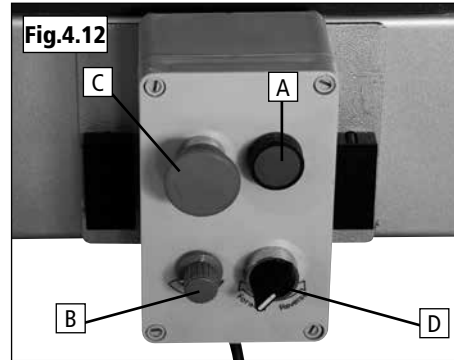

Fig.4.13
2. With access cover open, loosen the belt tightening handle. Rotate the tightening handle to release tension on the belt. Check speed and belt position chart on the headstock to determine torque ratio required (Fig.4.13).
2. The variable speed dial will only increase speed to the highest speed shown depending on belt position. (Fig.4.13).
### Pulley Speed Ranges (Fig.4.13)